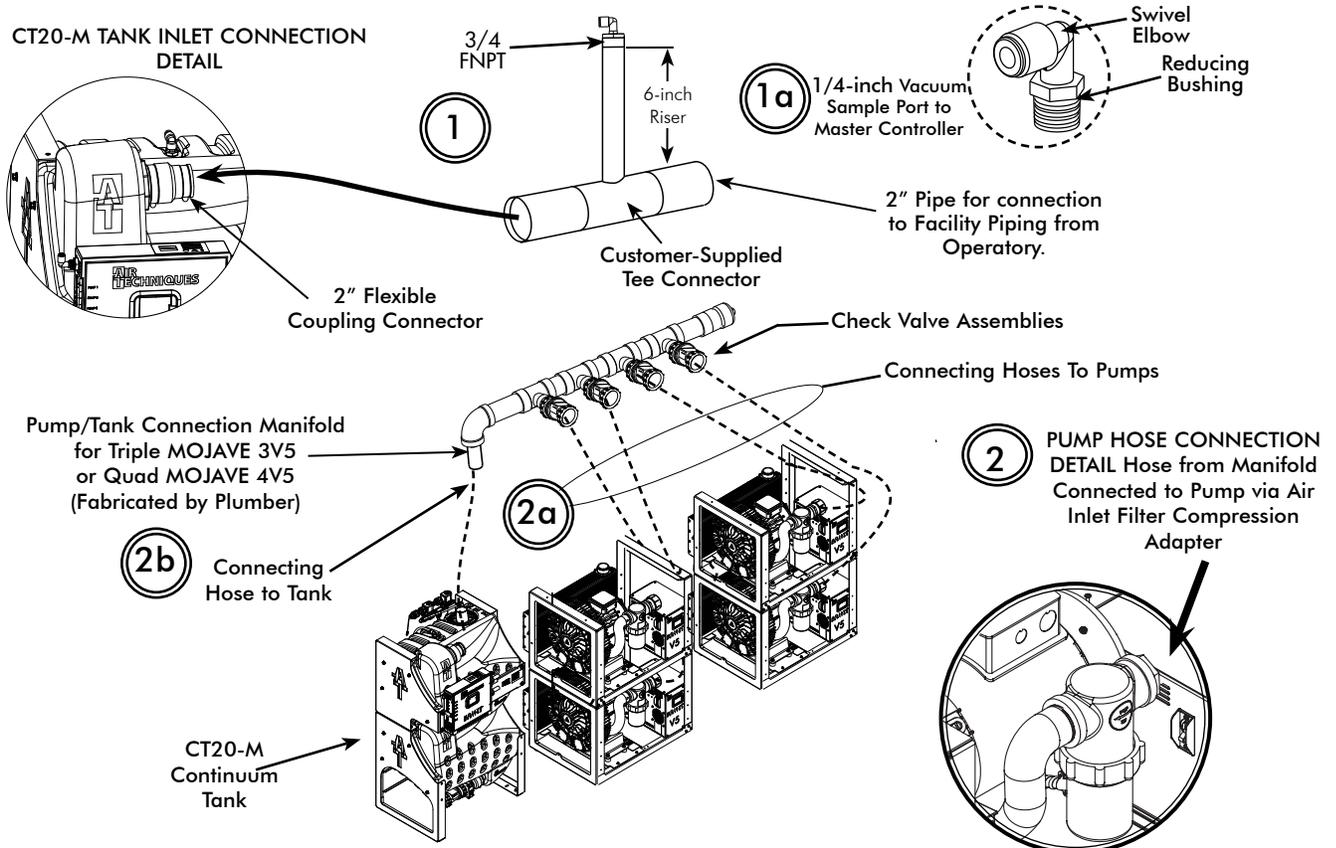

Figure 12. 3V5M or 4V5M System Connection Detail Using Accessory Kit
5. Using customer-supplied 3/4 inch and 2 inch pipe, fabricate an inlet tee connector as shown by Figure 12. Install an 1/4-inch elbow connector to the 3/4 inch riser of the tee connector using an 3/4 inch bushing. Both the elbow connector and bushing are provided in accessory pack H5243 or H5289.
8. Measure and record distance between each connection point as shown in the corresponding connection detail diagram, Figure 12.
1. **Suction Line to Tank Inlet Connection.** Refer to Figure 12, item (1).
- d. Install a length of 1/4 inch OD Urethane Tubing (P/N 51453) supplied in the MIK4 kit between the vacuum sample port and the vacuum inlet port of the Master Controller. See Figure 12, item (1a).
2. **Tank Air Outlet to Pump Inlets Connection.** Refer to Figure 12, item (2).
- b. Connect 1 1/2" ID, clear hose (P/N 54521) cut for installation between the tank outlet port and the Pump/Tank Connection Manifold. Secure by tightening the hose clamps of the 2" flexible couplings. See Figure 12, item (2b).